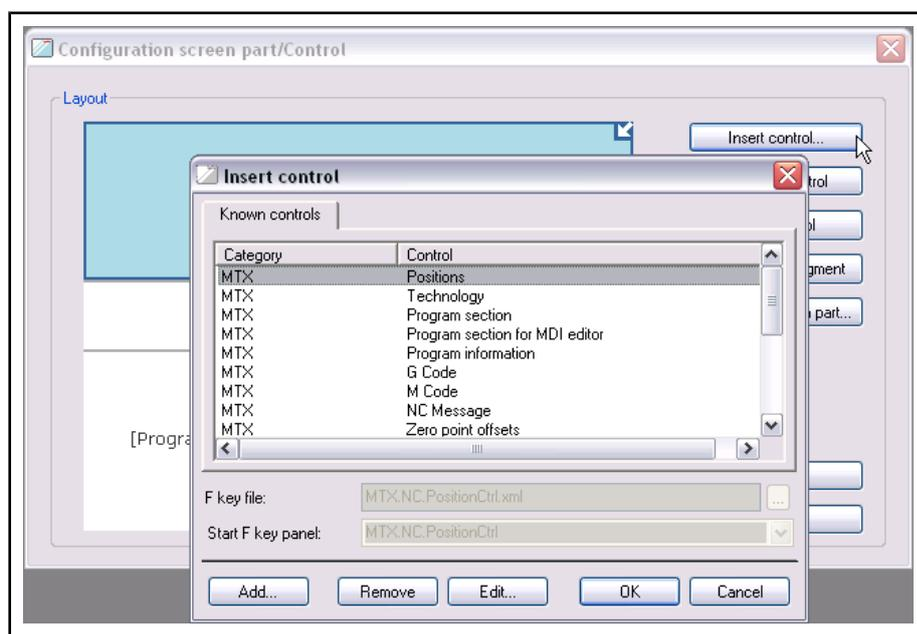
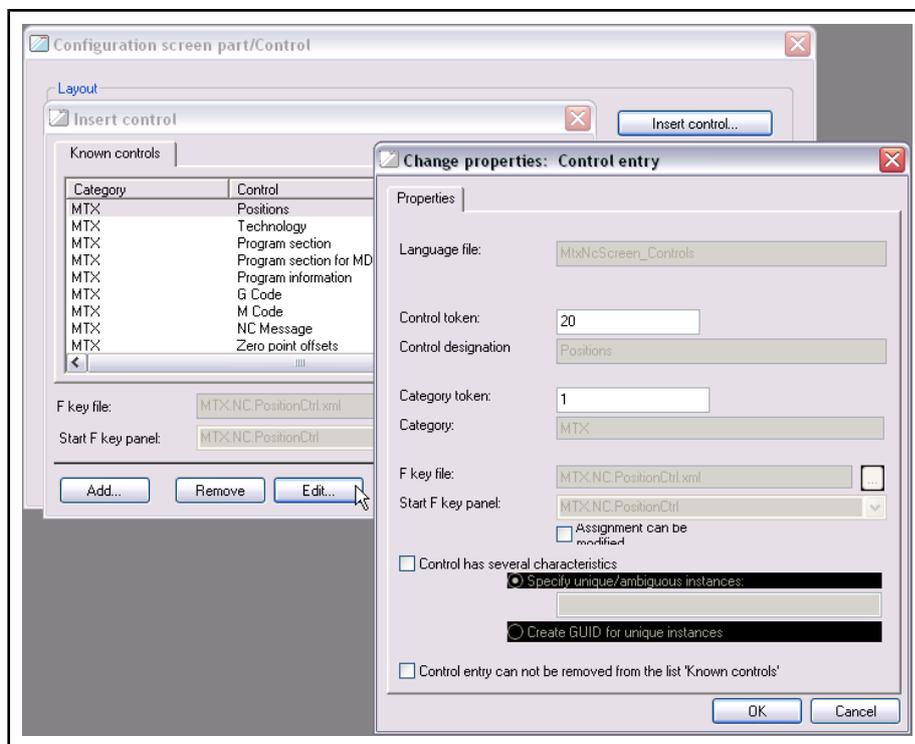

Fig. 7-12: Dialog: "Insert control"
Fig.7-14: Dialog: "Change properties" (Control entry after opening the "Edit..." function)
The control to be inserted into the focused screen segment can be selected from the list of known controls using the called dialog "Insert control" (fig. 7-12 "Dialog: "Insert control" on page 127). In its original state, this "Known controls" list contains default entries for controls that are frequently used in ACI screens. The "Add..." button can be used to supplement entries for any additional controls needed.
The entries in the list of "Known controls" are specified in detail using the function "Edit" in the opened dialog "Change properties: Control entry" (fig. 7-14 "Dialog: "Change properties" (Control entry after opening the "Edit..." function)" on page 129) and can be changed there:
- In addition, the instance – transferred as configuration parameter – and the assigned F-key file and F-panel are displayed for a control that is selected in the list of controls. The F-key file and panel can be changed if the respective option "Allocation can be changed" is selected for the control in the dialog "Change properties: control entry" (fig. 7-14 "Dialog: "Change properties" (Control entry after opening the "Edit..." function)" on page 129; set by default for controls that added to the list "Known controls" in dialog "Add control" (fig. 7-12 "Dialog: "Insert control"" on page 127).